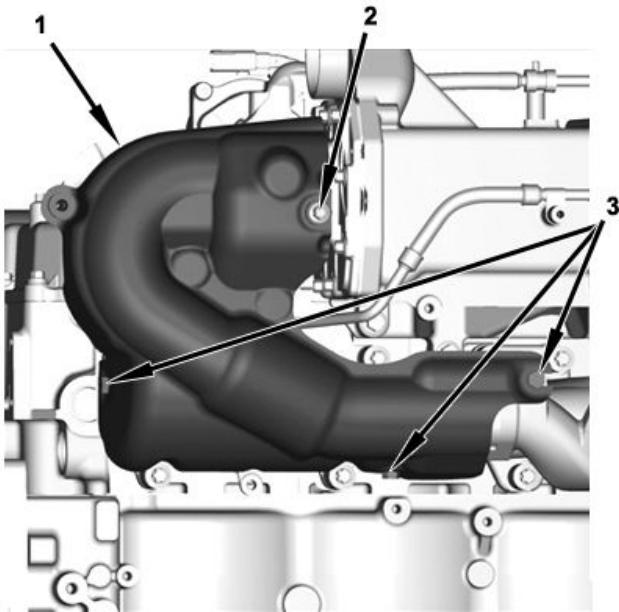

Figure 32. EGR Inlet Tube Heat Shield.
11. Install EGR inlet tube heat shield (Figure 32, Item 1), one M8 x 25 heat-resistant bolt (Figure 32, Item 2), and three M8 x 12 bolts (Figure 32, Item 3) finger tight. Torque bolts to 18 lb-ft (24 N·m).